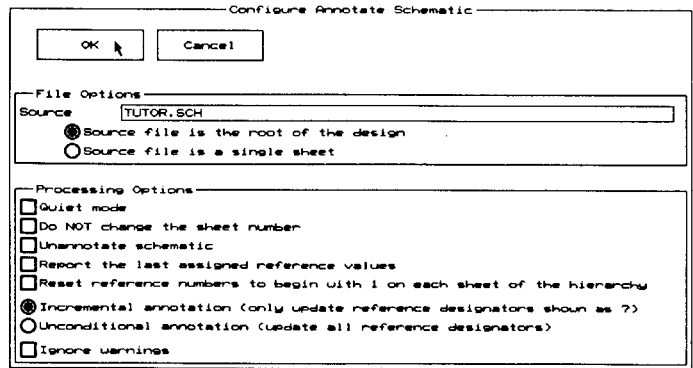

Figure 7-2. The *Configure Annotate Schematic* screen.
2. Select **Local Configuration** and then select **Configure ANNOTATE**. The **Configure Annotate Schematic** screen displays (figure 7-2).